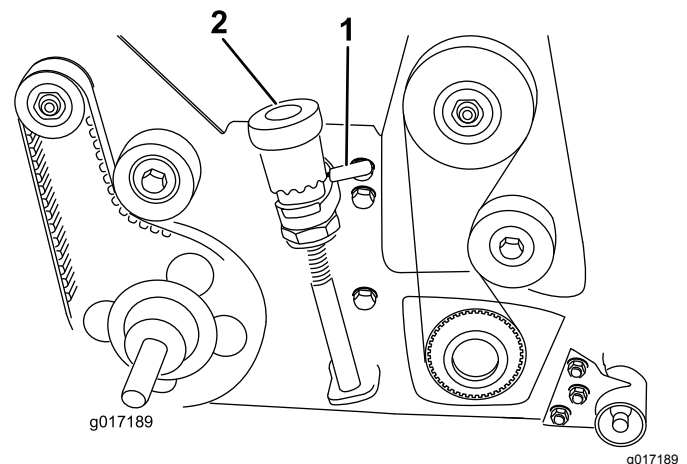

Figure 25
2. Use the quick-up levers (both sides) to lower the grooming reel into the grooming position (Figure 25).
4. Lift and turn the micro adjustment knob (Figure 25) to raise or lower blade tip.
When transporting machine be sure to raise the grooming reel into its transport (raised) position. To raise the grooming reel, rotate the right and left quick-up levers so that they face to the rear (Figure 25). To lower the grooming reel, turn the quick-up levers forward.